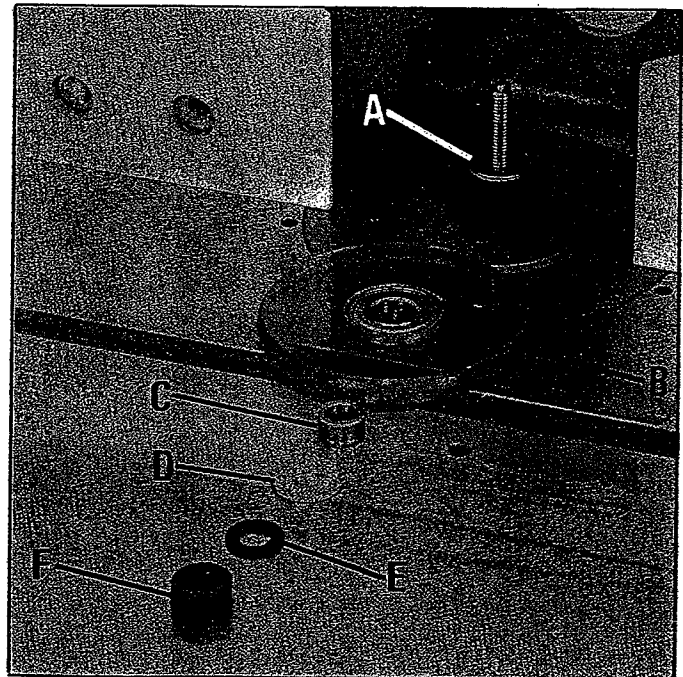

Fig. 15
1. Two 1/2" I.D. and 3/4" I.D. washers are supplied with the 4-1/2" diameter spindle guard and two 1" I.D. and 1-1/4" I.D. washers are supplied with the 6-1/2" diameter spindle guard to accommodate different size spindles. These washers are to be positioned directly above and below the spindle guard. Place one of the washers (A) on the spindle, over either the cutter or collar, as shown in Fig. 15.
2. Place the spindle guard (B) Fig. 15, on the spindle. The bushing (C) shown in Fig. 15, would be used for 1/2" spindles. Washer (D) is placed on the spindle directly over spindle guard (B).
3. Always place "keyed" washer (E) Fig. 15, on spindle before screwing on nut (F). The "keyed" washer (E) prevents the nut (F) from loosening when spindle turns counterclockwise.